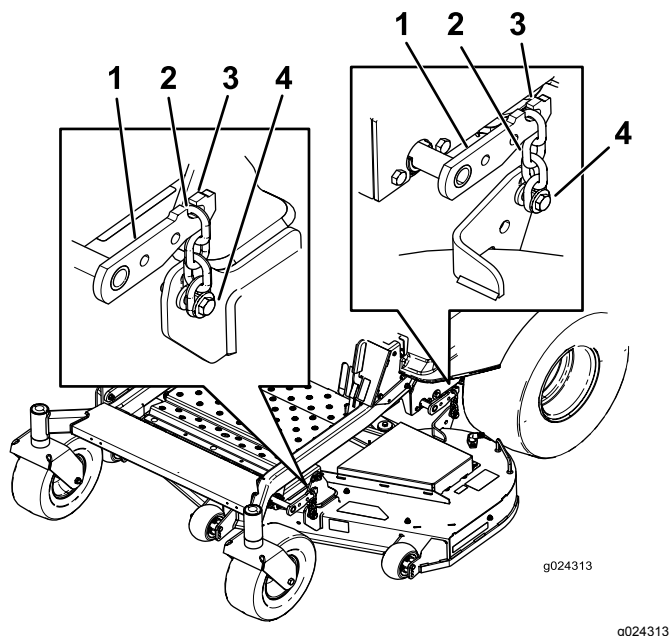

Figure 64
5. Loosen the adjustment bolts on all 4 corners so that the deck is sitting securely on all 4 blocks (Figure 64).
6. Ensure that there is tension on all 4 chains (Figure 64).
7. Tighten the 4 adjustment bolts (Figure 64).